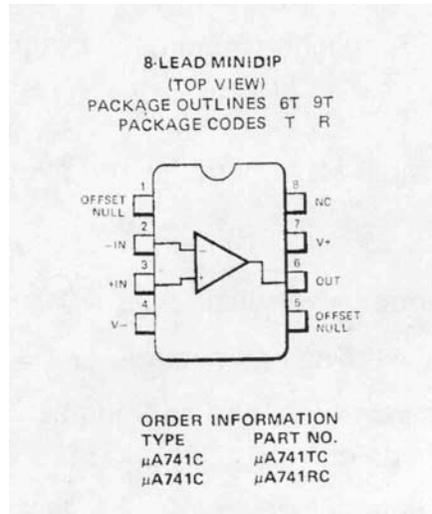

Figure 9.2: $\mu A741$ operational amplifier integrated circuit package
where A_o is the open-loop voltage gain and $+V_{CC}$ and $-V_{CC}$ are the positive and negative DC power supply voltages, respectively. There is no internal "ground" or "common" connection; voltages are measured relative to the common connection of the two power supplies. The numbers on the diagram refer to the pin numbers on the 741 integrated circuit (IC) package as shown in Figure 9.2. The pin numbers and the supply voltages are usually omitted in circuit diagrams as long as there is no ambiguity. Pin 8 is not used. Pins 1 and 5 do serve a useful purpose, but they will not be considered in this lab.